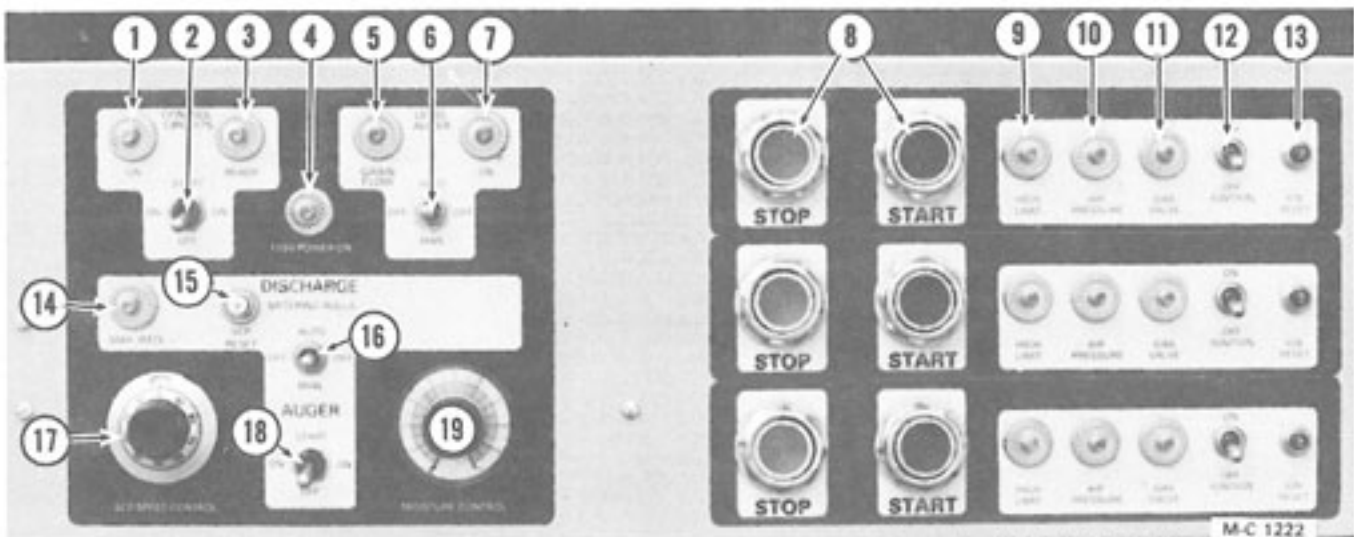

Figure 1 - Base Section Control Panel Lights, Switches and Controls (Model 1075 Shown)
1. Flip all of the toggle switches on the control panel(s) to the OFF position, see Figure 1.